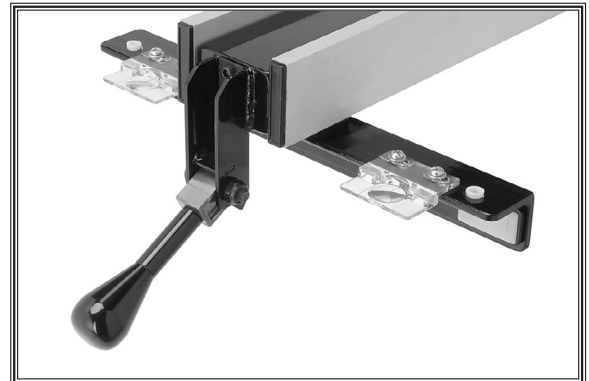

Figure 34. Fence knob installed.
1. Install the fence knob as shown in **Figure 34**.